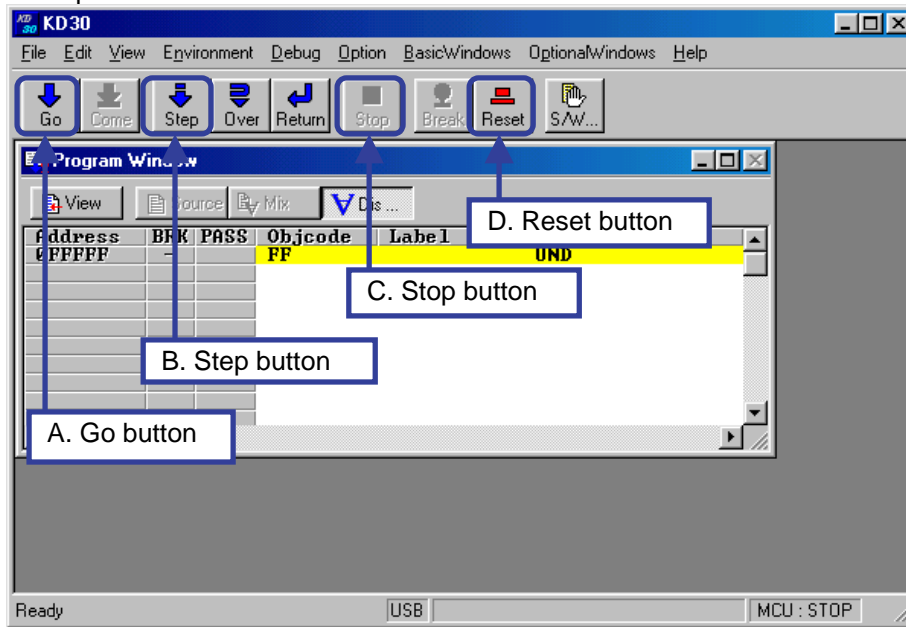
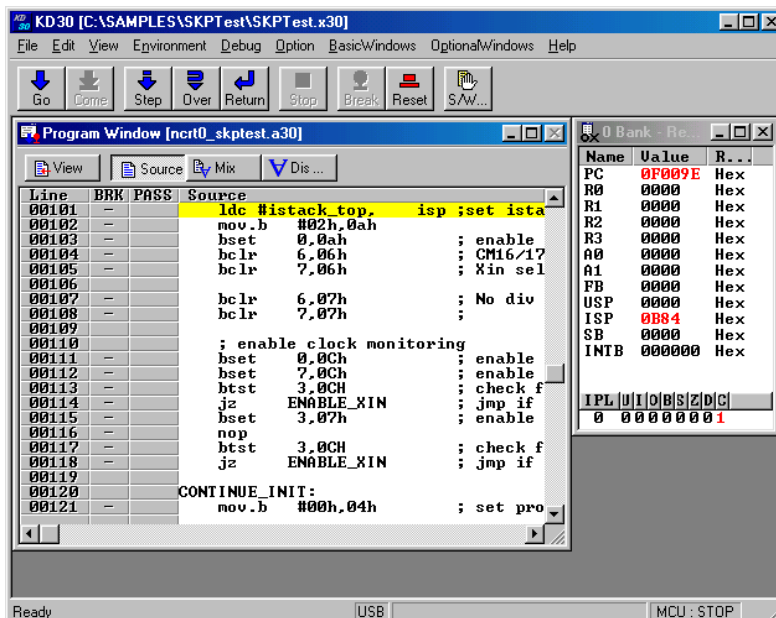

Figure 5-6 KD Main screen
Figure 5-8 Program window
- 2) When completing the download, a program which is downloaded into "Program window" is indicated (See Figure 5-8).
Click the "Stop" button on the KD Main screen (Figure 5-6, C) to stop the program which is already executed after this, the program is stopped the KD Main screen is as Figure 5-8.
When performing step execution, click the "Step" button (Figure 5-6, B) on the KD Main screen.
User Program is in the same status as immediately after download. Click the "Reset" button (Figure 5-6, D) on the KD Main screen.